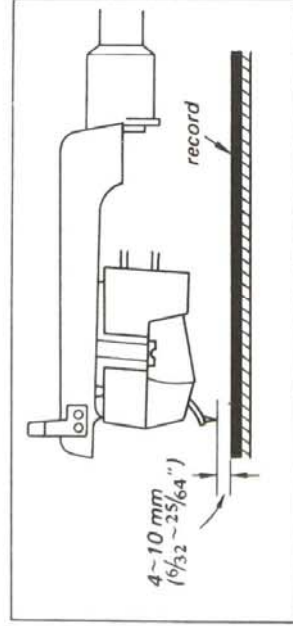

Fig. 3-1. Tonearm height adjustment (1)
1. When the tonearm automatically returns to its tonearm rest after playing, check to see that the clearance between the stylus tip and the record on the turntable is 4 to 10 mm ($6/32$ " to $25/64$ ") as shown in Fig. 3-1.
2. Confirm that the clearance between the stylus tip and the record on the turntable is 4 to 10 mm ($6/32$ " to $25/64$ ") as shown in Fig. 3-1.